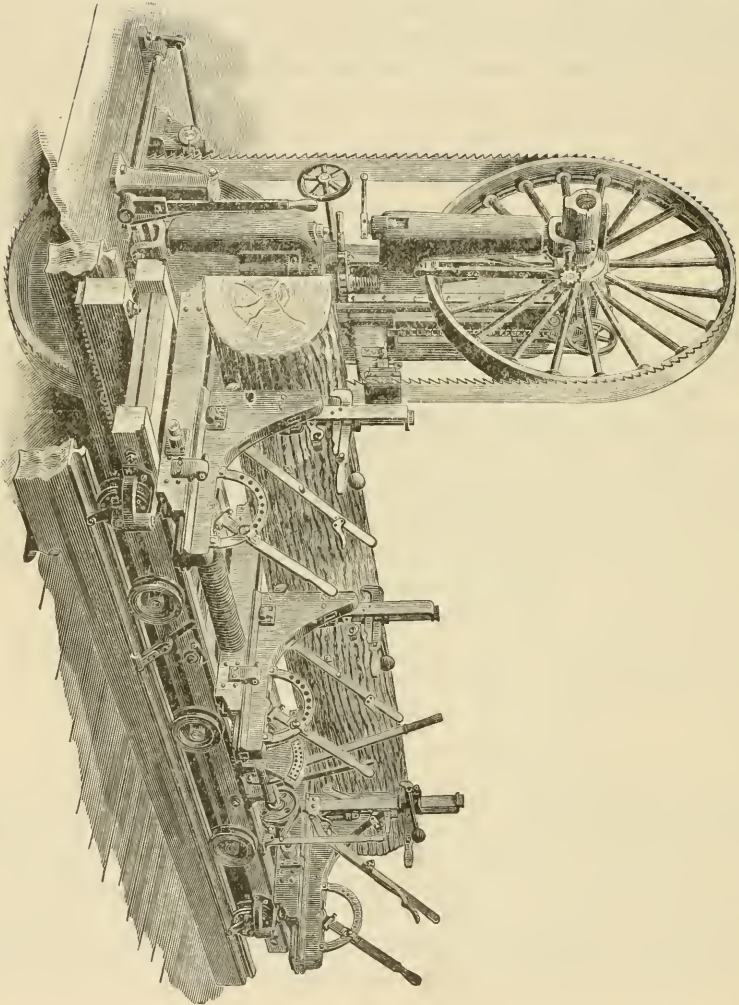

FIG. 44 A—BAND SAW MILL.
44. Large Band Saws--The band saw is used in preference to the circular saw in large mills. The circular machine is used in the small portable outfits. A right hand band saw mill is shown in Fig. 44 A.